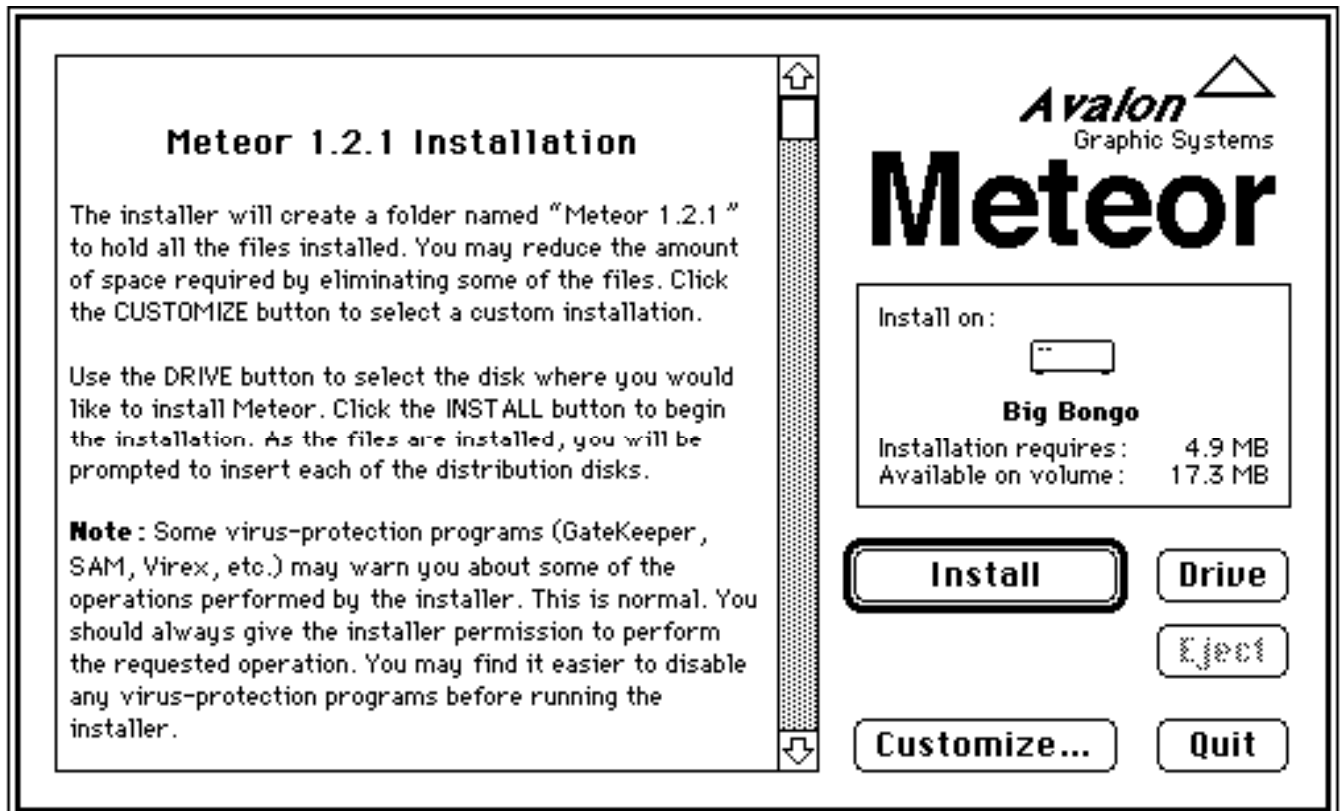

Figure 3: Customized Version of Main Dialog
Figure 3 shows a version of the Main Dialog which has been customized by adding a company's logo and help text. The logo requires the addition of one 'PICT' resource and the scrolling help text requires one 'TEXT' and one 'styl' resource.
**Switch Button.** The Main and AltMain Dialogs both contain a Switch button. The Switch button dismisses the currently displayed dialog and switches to the alternate dialog (i.e. the Main Dialog switches to the AltMain Dialog and the AltMain Dialog switches to the Main Dialog). In Figure 3, the Switch button has